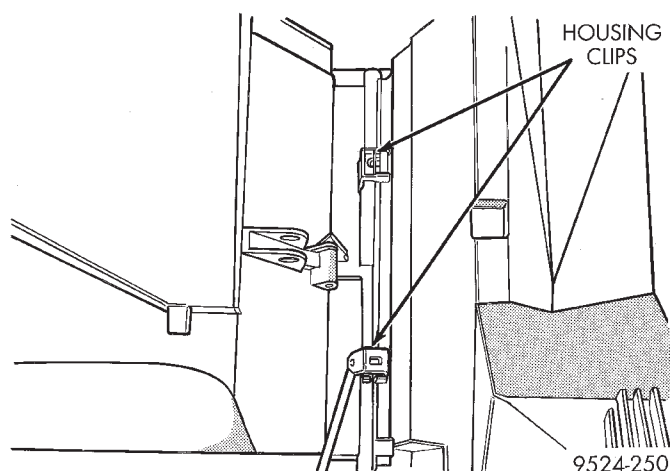

**Fig. 36 Housing Clips**
(5) Remove clips retaining evaporator housing to heater/distribution housing (Fig. 36).